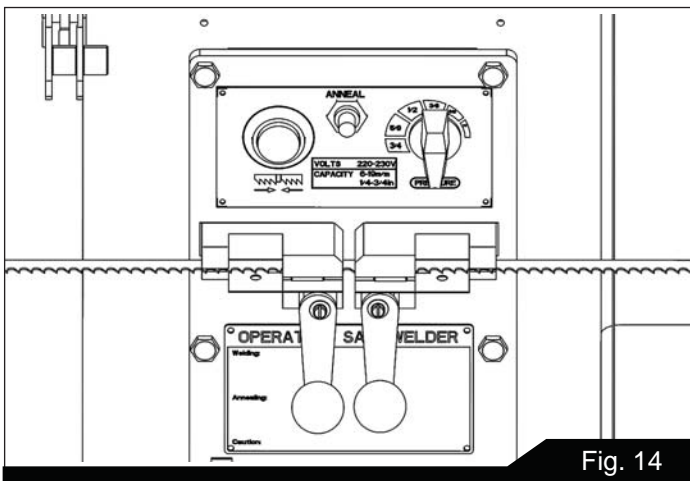

Fig. 14
IMPORTANT: If a blade has been cut by using snips, the ends of the blade must be ground square before welding them together, as shown in Figure 14.
3. Turn pressure knob (Figure 14) to "0" position (pointed downward).
- Press and hold weld button (Figure 14). When weld button is pushed, the left clamp moves to the right to apply pressure to the blade ends. Simultaneously, sparks will be emitted from the blade ends as they are being welded. Do not release weld button until blade joint is “red hot.”
- Quickly press and release (“jog”) the anneal button (Figure 14). Repeat jog process until you see a slightly red glow from weld area.